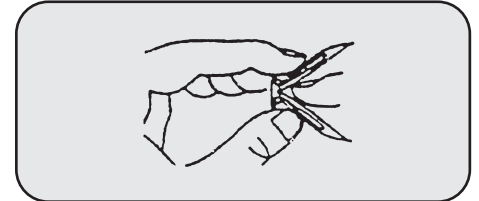

Figure 8
5. Fold wall anchor as shown in Figure 8 below.